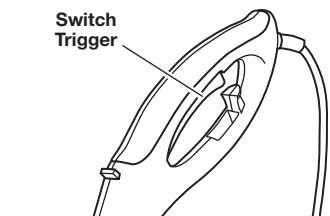

Fig. 10
2. Squeeze and hold the switch trigger (Fig. 10).
1. Release the switch trigger (Fig. 10).